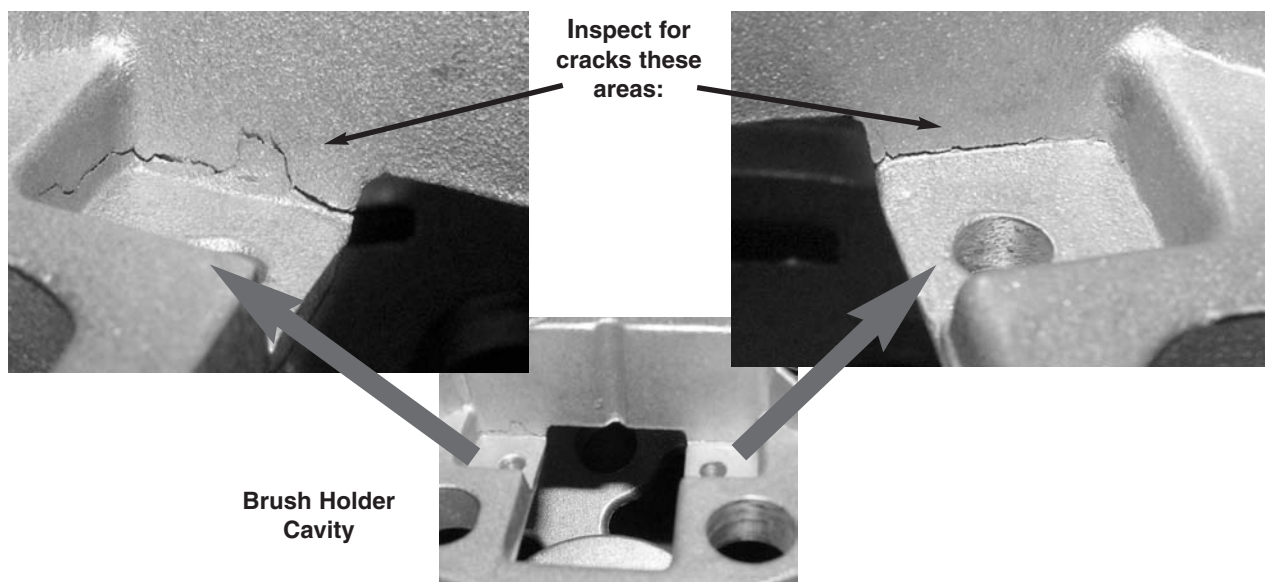

Figure 1 - Alternator Slip Ring Housing (at brush holder)
6. With the brush holder and brushes removed, use a 3x magnifying glass and inspect the brush holder cavity for cracks in the area shown in Figure 1. If cracks exist, continue with instruction 7. If there are no apparent cracks, continue with instruction 8.